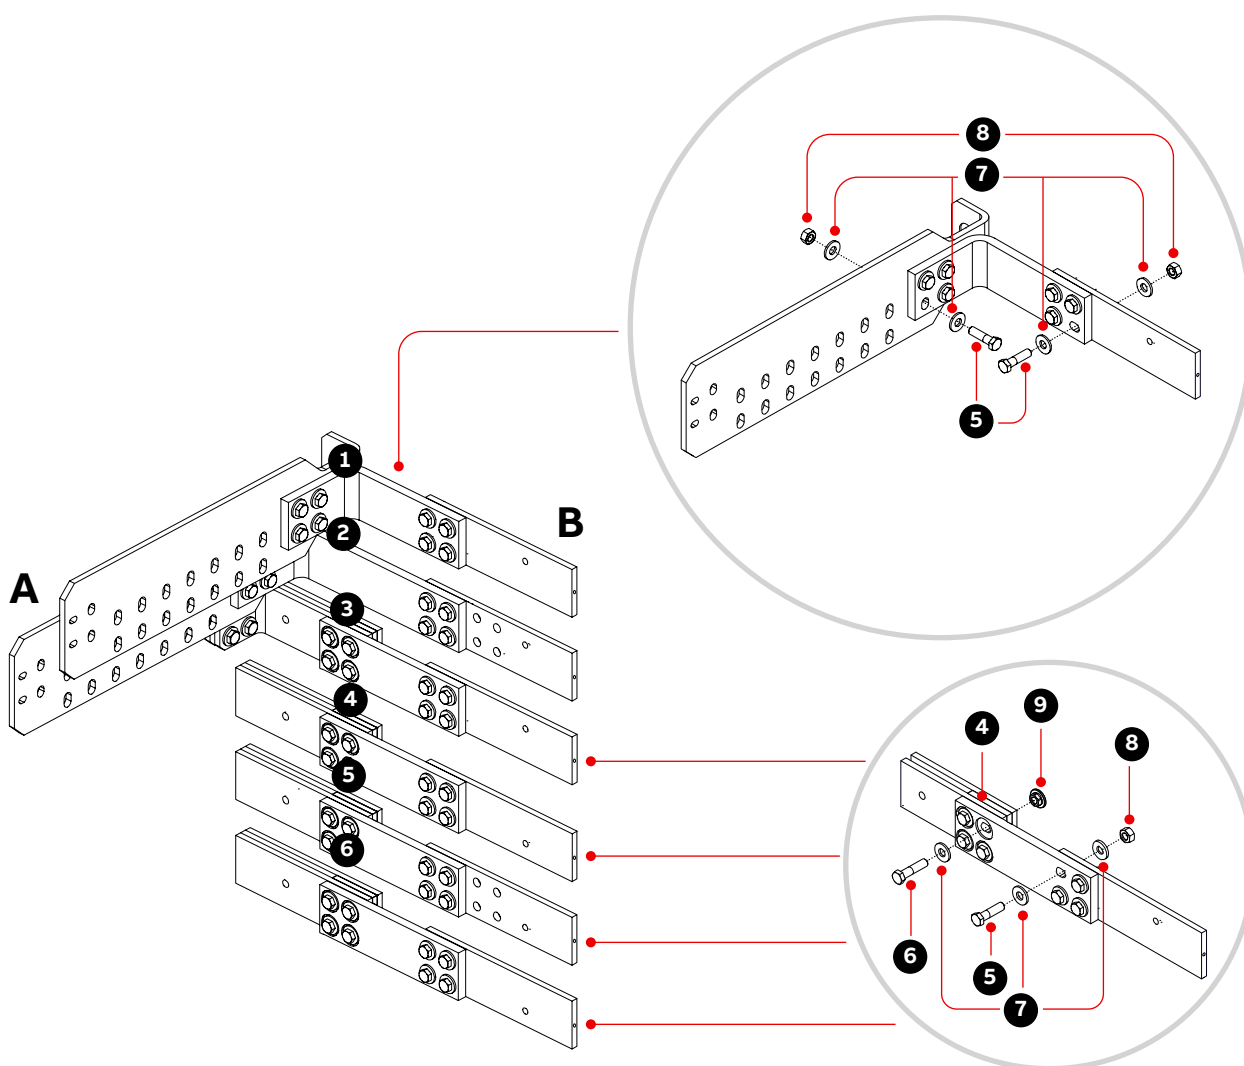

Figure 5–7 AC busbar joints between the COU/TEU and LSU (5/7/9 MVA).
The busbar configuration shown in Fig. 5–7 is for a TEU (A) connected to the left side of an LSU (B). For a TEU connected to the right side of an LSU, the busbar configuration is the mirror image of this figure.